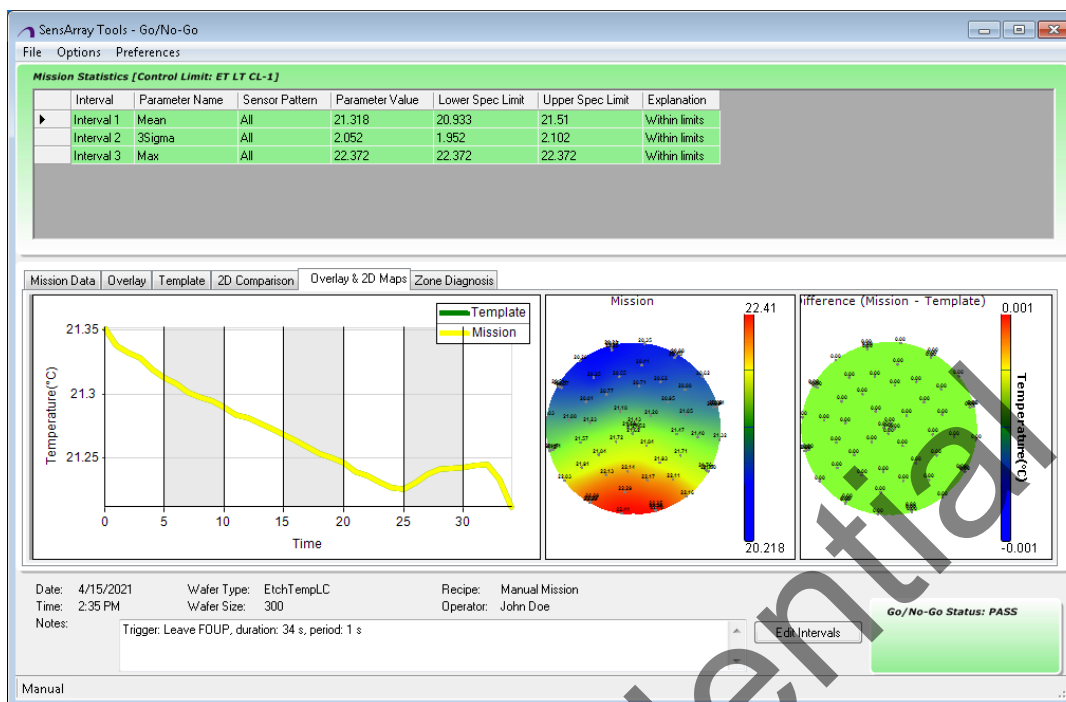

Figure 6-13 Go/No-Go – Mission Statistics
5. The **Go/No-Go** window opens, defaulted to the **Mission Data** tab. The mission is loaded, and the analysis results are presented. If the mission is within spec, the data and the **Go/No-Go Status** area are shaded **green**, as shown in Figure 6-13.